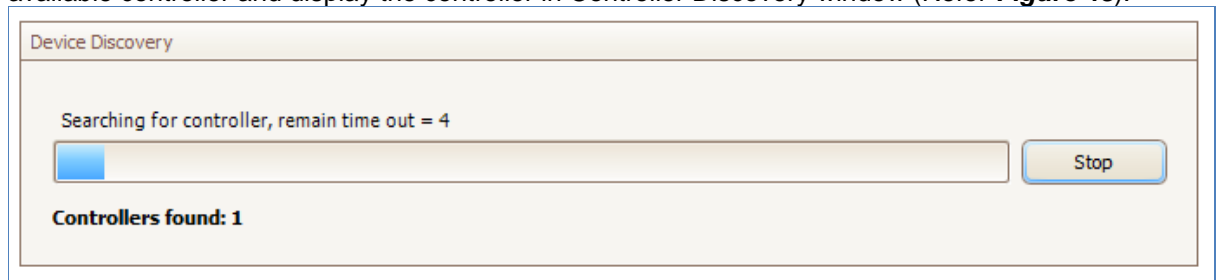
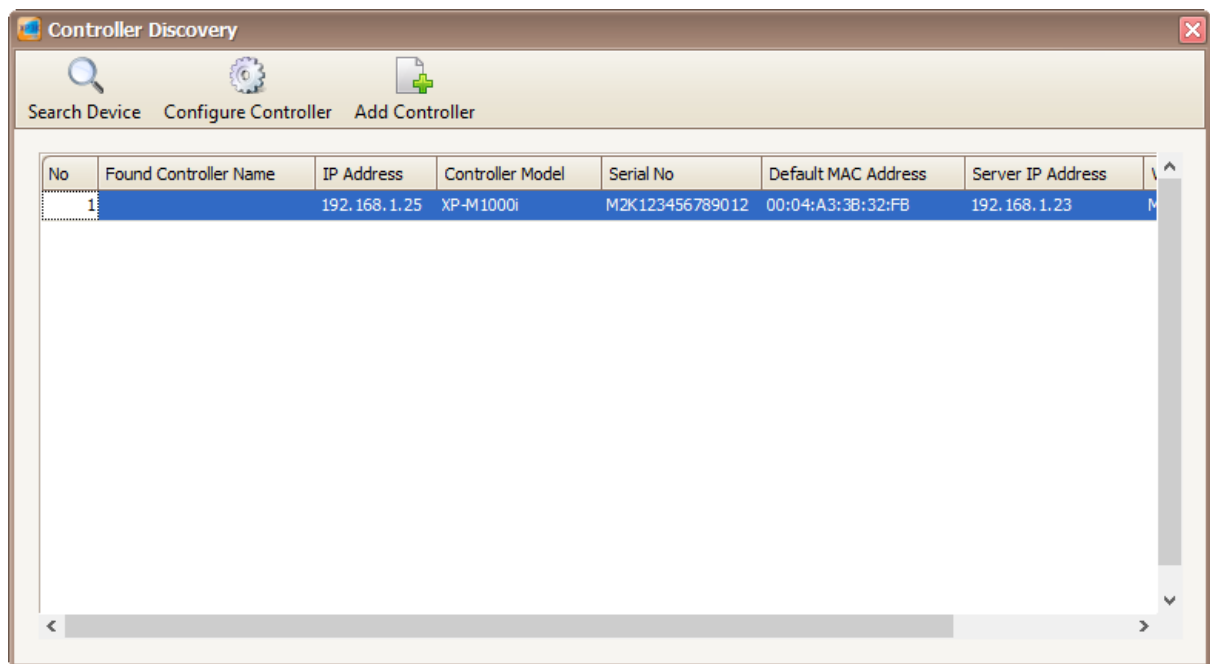

Figure 47 - Device Discovery
Figure 48 - Controller Discovery
3. A Device Discovery window will be shown (Refer **Figure 47**). Device discovery will search for available controller and display the controller in Controller Discovery window (Refer **Figure 48**).